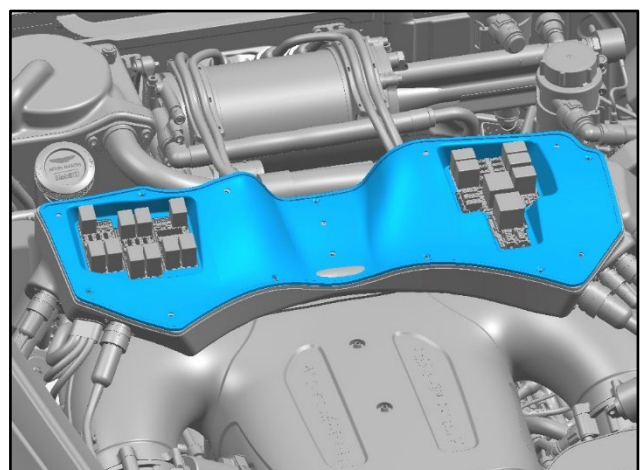

Figure 8
8. Remove the closing panel for the fuse box (refer to Figure 8).